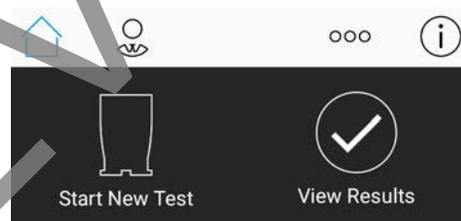

Figure 8. Start New Test Icon on Home Screen
9. On the Home screen, tap the **Start New Test** icon (see Figure 8). The Patient ID screen appears.